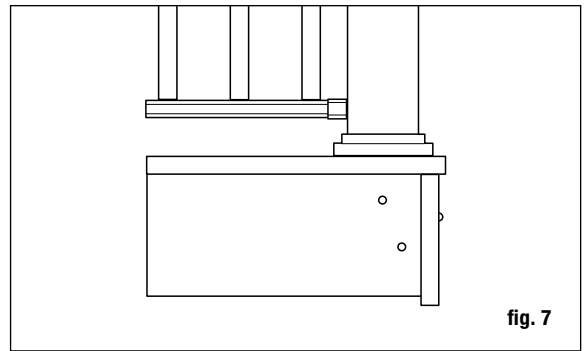

fig. 7
**Step 3** Position, plumb with a level, and clamp the railing post on the interior face of the joist. Plumb again. The 4x4 railing post should be bolted to the inside of the joist using two 1/2" x 6" galvanized carriage bolts. Corner posts use a third carriage bolt inserted through the adjacent joist (fig. 7).
**Step 3** Position, plumb with a level, and clamp the stair railing post on the interior face of the stringer. Plumb again. The 4x4 stair railing post should be bolted to the inside of the stringer using two 1/2"x6" galvanized carriage bolts. Corner posts use a third carriage bolt inserted through the adjacent joist (fig. 7). Ground level posts should be set in concrete.